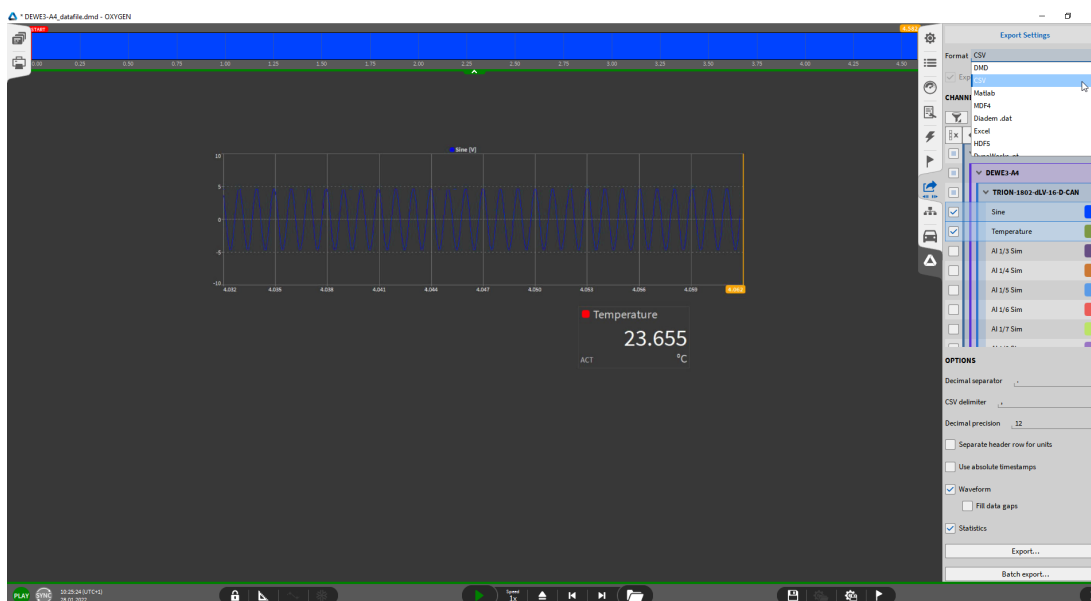

Fig. 26: Exporting data file for post-processing
The green border and PLAY indicator in the lower left corner indicate that a file is loaded for post-processing (see Fig. 26).
4. Click on the export button seen in Fig. 26.